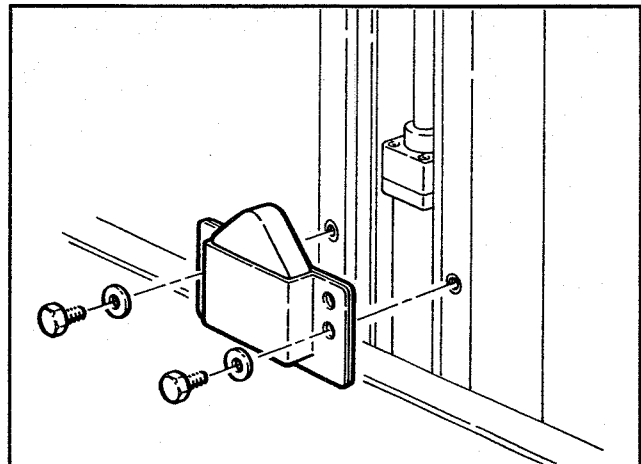

Figure 2-10 - Bumper Supports
2. Refer to figure 2-10 and install two rubber bumpers; one on each side column.